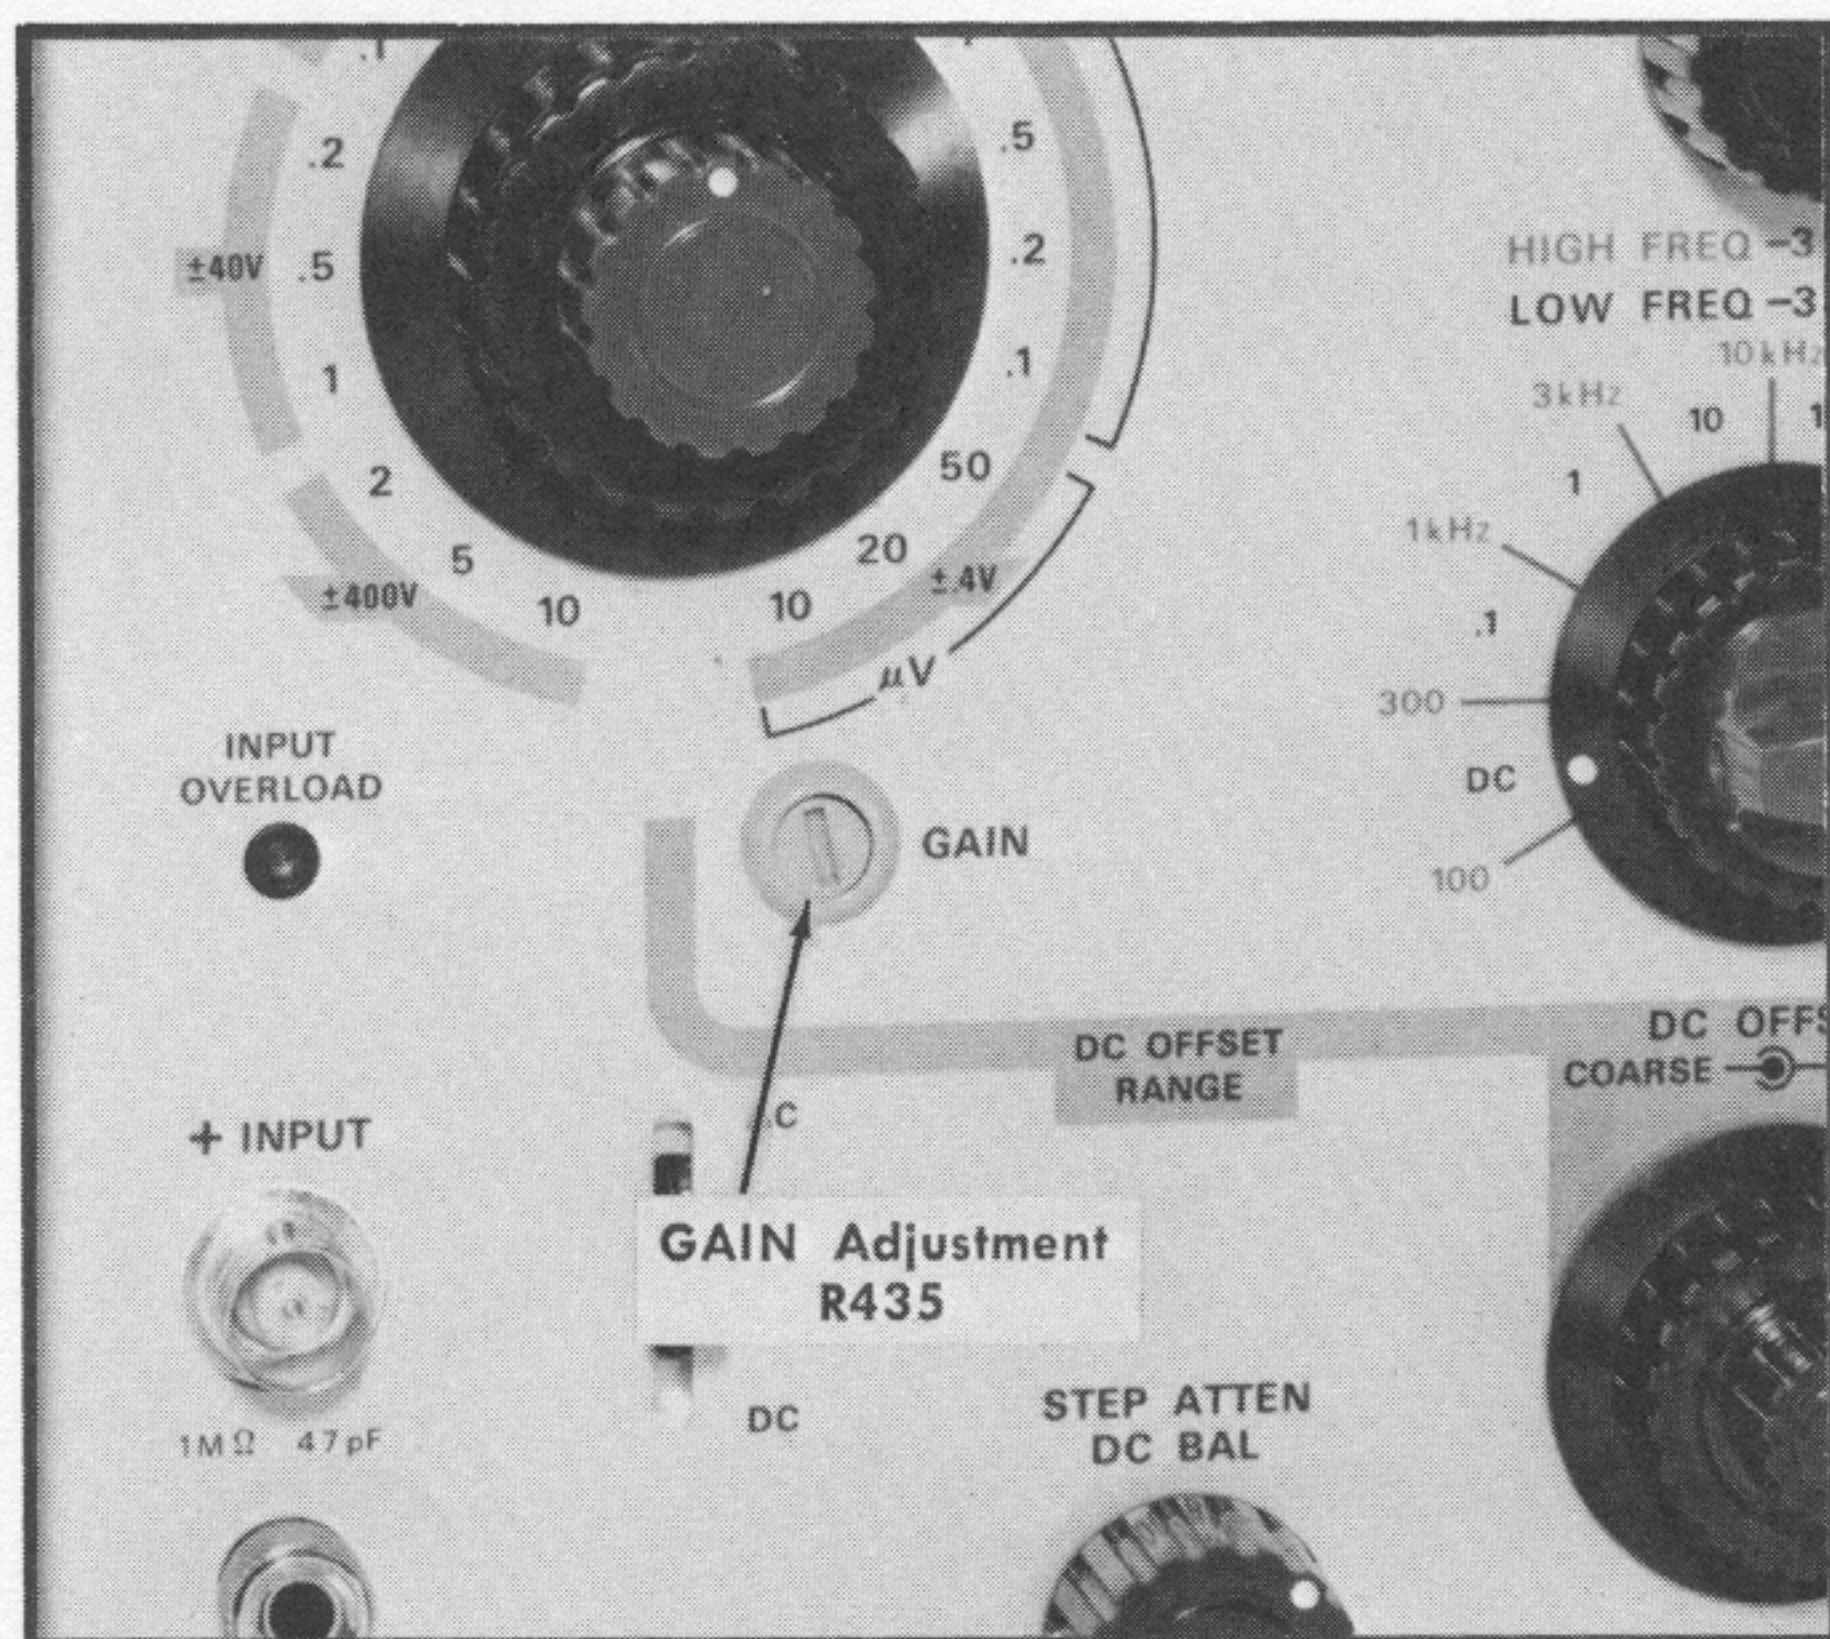

Fig. 5-6. Location of GAIN Adjustment, R435.
f. ADJUST—The GAIN control, which is a front panel adjustment R435, (see Fig. 5-6) for exactly 5 cm of display amplitude.